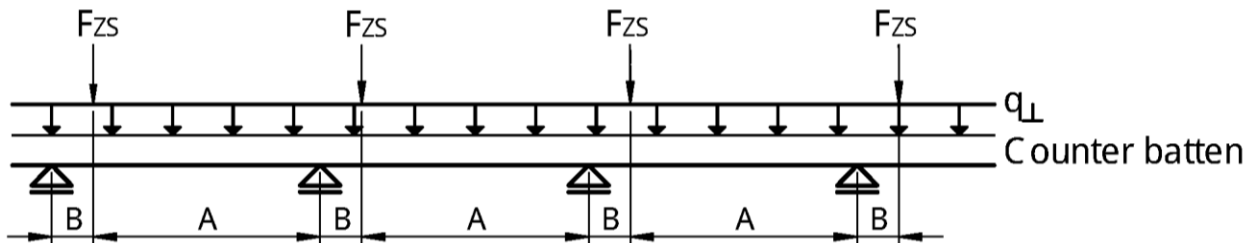

Figure A.7.5: Continuous batten under constant line loads from actions on the roof plane  $q_{\perp}$  and concentrated loads from tensile screws  $F_{zs}$
- A distance of the screws according to Figure A.7.5
B distance of the alternatively inclined screws according to Figure A.7.5
A positive value for  $F_{ZS,k}$  means a load towards the rafter, a negative value a load away from the rafter. The system of the continuous beam is shown in Figure A.7.5.